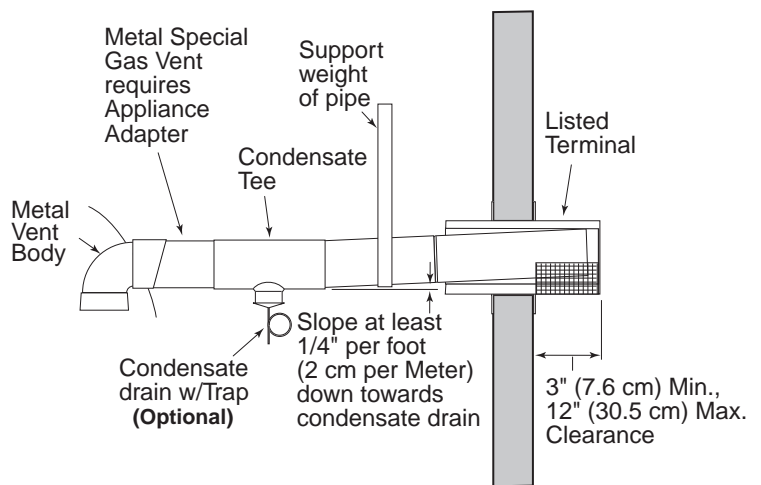

Figure 17.
- at least 3" and at most 12" out from the wall (see Figure 17), following the vent manufacturer’s instructions